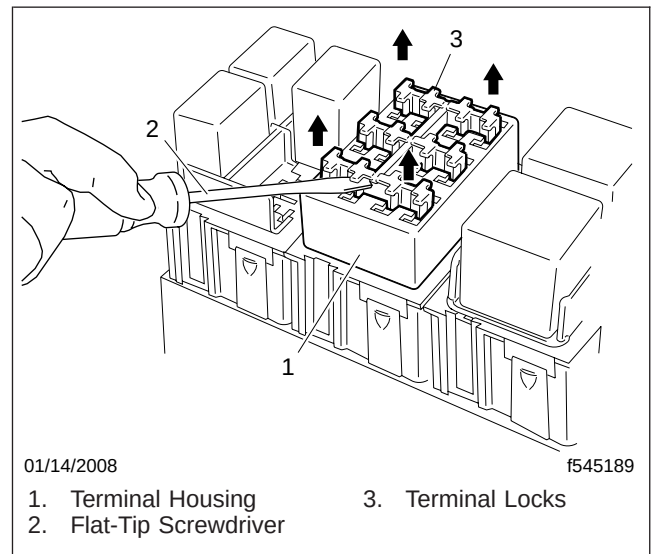

Fig. 3, Removing the Terminal Locks
5. Remove the terminal locks. See Fig. 3.
6. Lift the terminal locks up and out of the PDM. See Fig. 3.